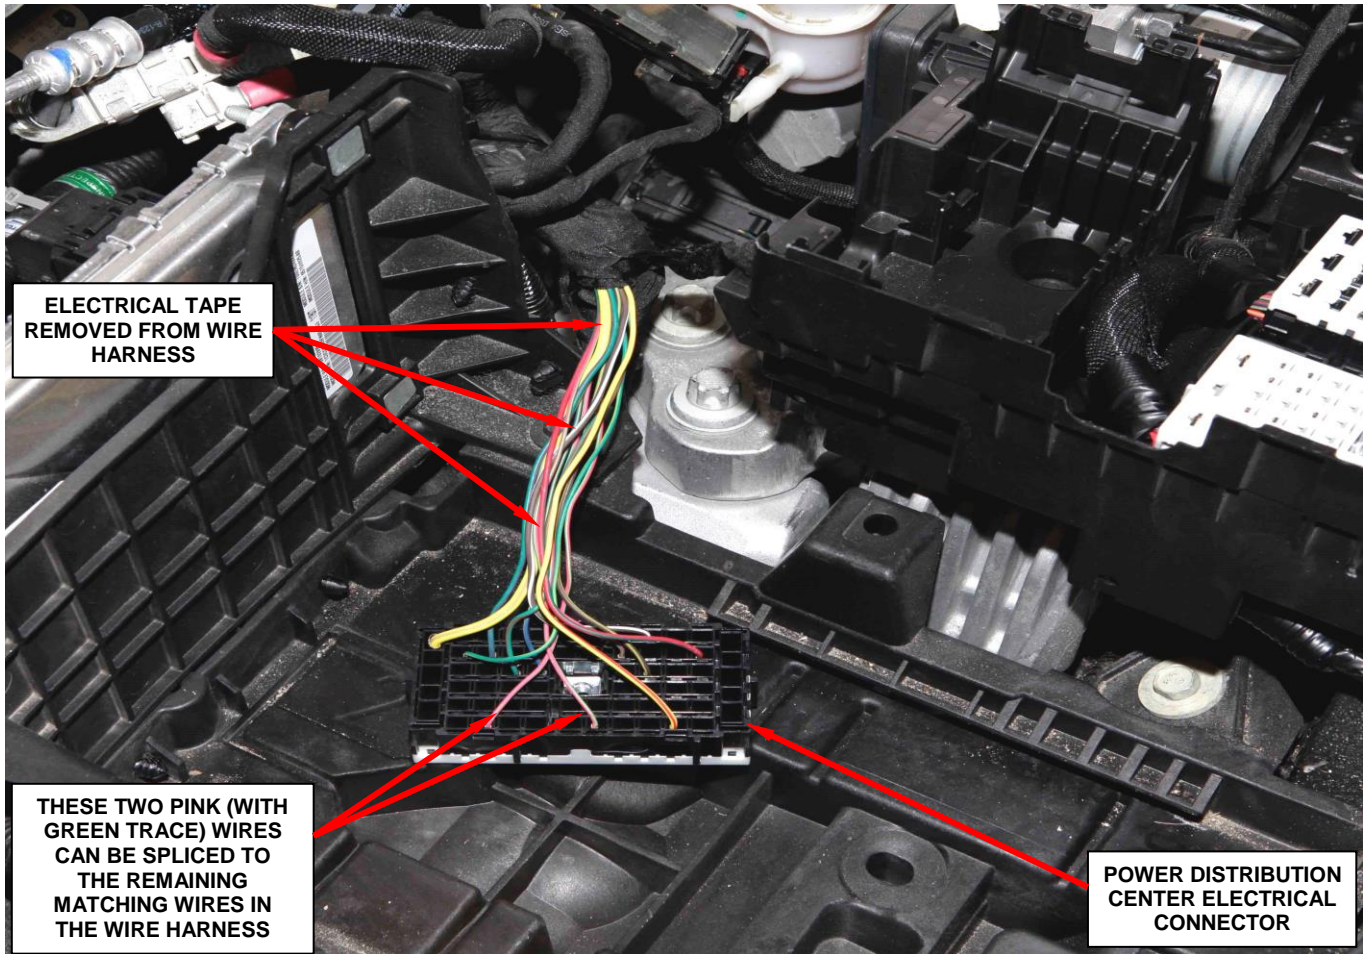

Figure 9 – Wire Harness Tape
12. Remove the wire harness tape all the way back to the main wire harness (Figure 9).